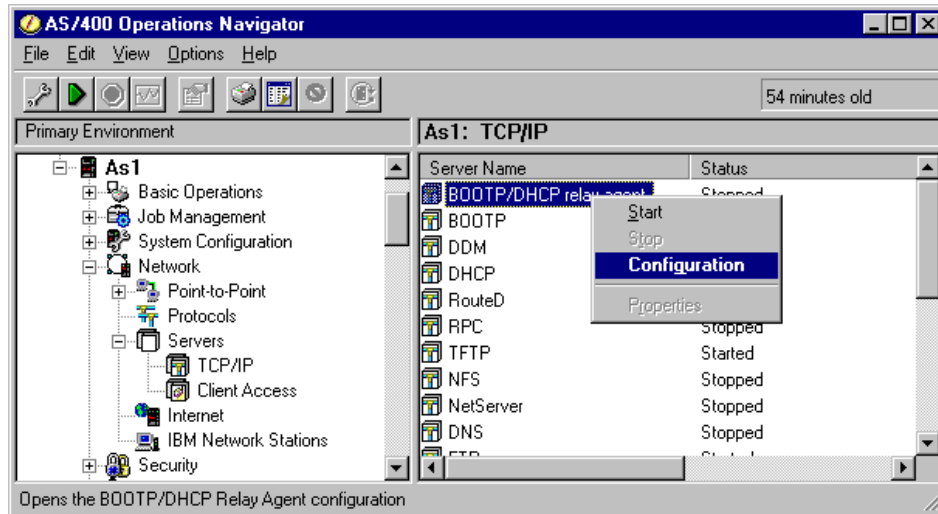

Figure 86. AS/400 Operations Navigator - Configuring BOOTP/DHCP Relay Agent
3. From Operations Navigator, select **As1—>Network —>Servers —>TCP/IP** and right-click on **BOOTP/DHCP relay agent** as shown in Figure 86. Click on **Configuration** to select it.